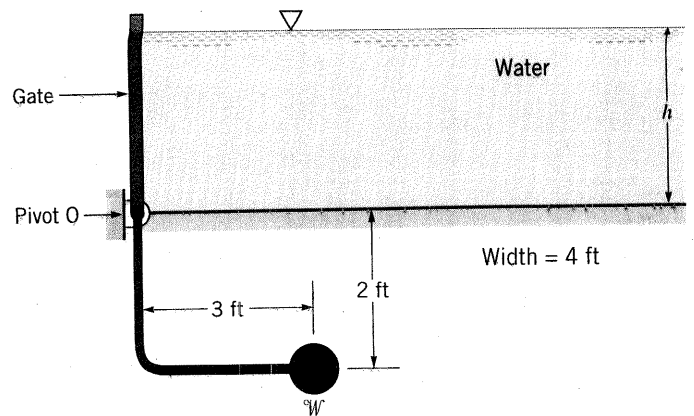

FIGURE P2.59
2.59 The massless, 4-ft-wide gate shown in Fig. P2.59 pivots about the frictionless hinge O. It is held in place by the 2000 lb counterweight, W. Determine the water depth, h .